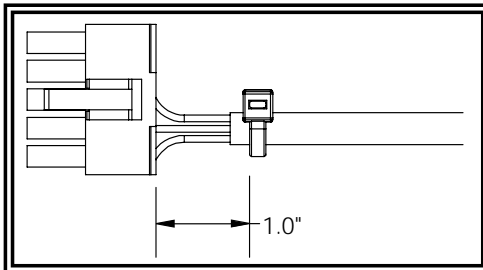

FIGURE 4
6. Place zip-tie 1.0" from base of the connector shown in Figure 4. Zip-tie must not be able to slide on cord.